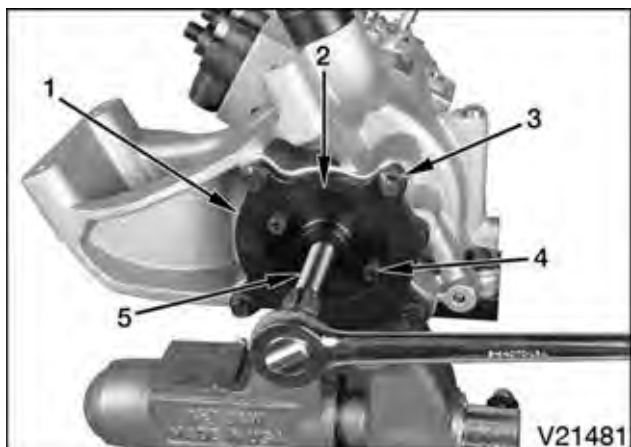

Figure 18. HP Fuel Pump Removal
35. Tighten two Socket Head Bolts (12-454-01-3) until they come in contact with Forcing Screw Adapter (12-454-01-4) (Figure 18).